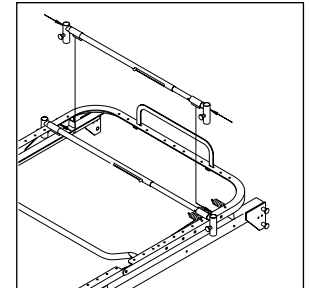
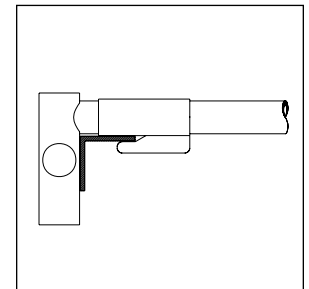

Figure 2
Figure 3
4. Secure one bed hook to the bedspring angle iron and compress crossbrace until it is short enough to attach to the opposite side of the bed (Figure 2). Ensure the crossbrace attaches to the bedspring angle iron (Figure 3).